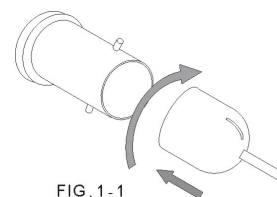

FIG. 1-1
- 4.1 Connect the pH electrode to the BNC terminal socket. Insert and turn right to the end. FIG.1-1.